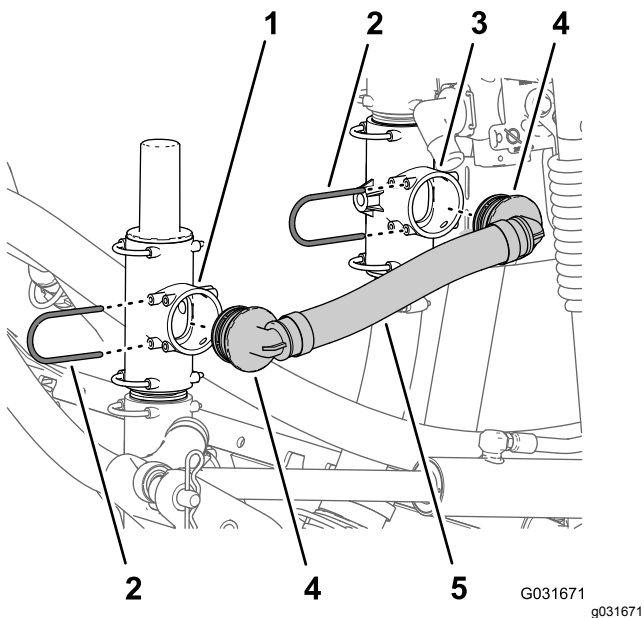

Figure 224
1. Align the 90° fitting of the pressure relief-hose assembly (Toro Part No. 131-9647) with the open port of the pressure-relief valve and insert the 90° fitting until it is seated in the T-fitting (Figure 224).
2. Secure the 90° fitting to the pressure-relief valve with the retainer (Figure 224) that you removed in step 1 of Installing the Pivoting Hose Reel to the Manifold Mount (page 83).
3. Align the other 90° fitting of the pressure relief-hose assembly (Toro Part No. 131-9647) with the open port of the lower T-fitting and insert the 90° fitting until it is seated in the T-fitting (Figure 224).
4. Secure the 90° fitting to the upper T-fitting with the retainer (Figure 224) that you removed in step 2 of Installing the Pivoting Hose Reel to the Manifold Mount (page 83).
5. Secure the straight-barbed fitting to the fluid-shutoff valve (Figure 224) with a retainer (Toro Part No. 131-0235).